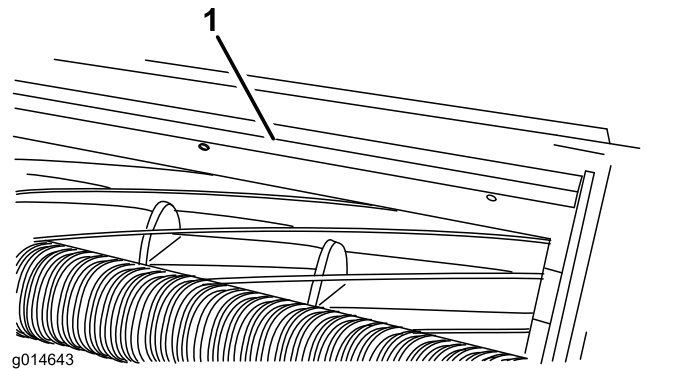

Figure 19
1. Loosen the screws securing the top bar (Figure 19) to the cutting unit.